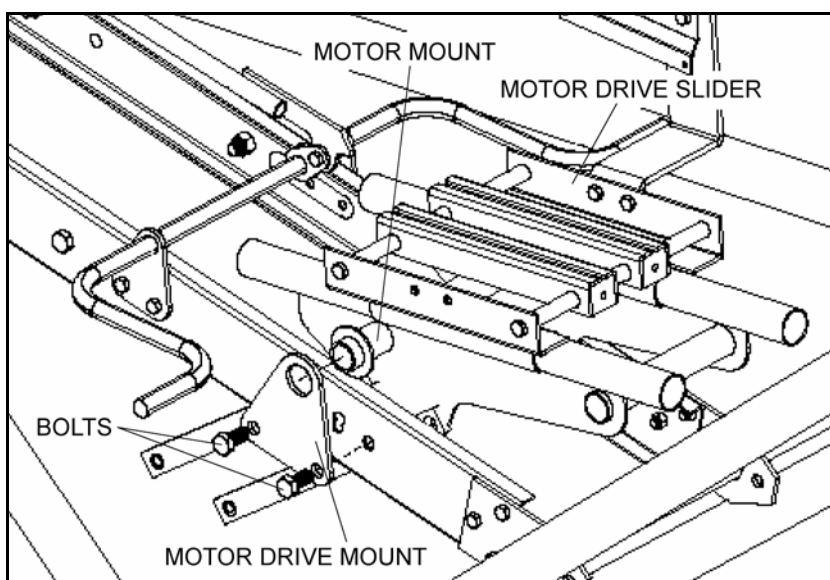

Figure 3.31 Motor Mount on Frame
6. Install motor mount on frame by sliding into motor drive mount as shown in Figure 3.31. Install second motor drive mount on right side of motor mount using two 5/8" x 1-1/2" bolts and locknuts.
8. Use a light grease to lubricate tubes on top of motor mount. Slide the motor drive slider onto the motor mount as shown in Figure 3.31.